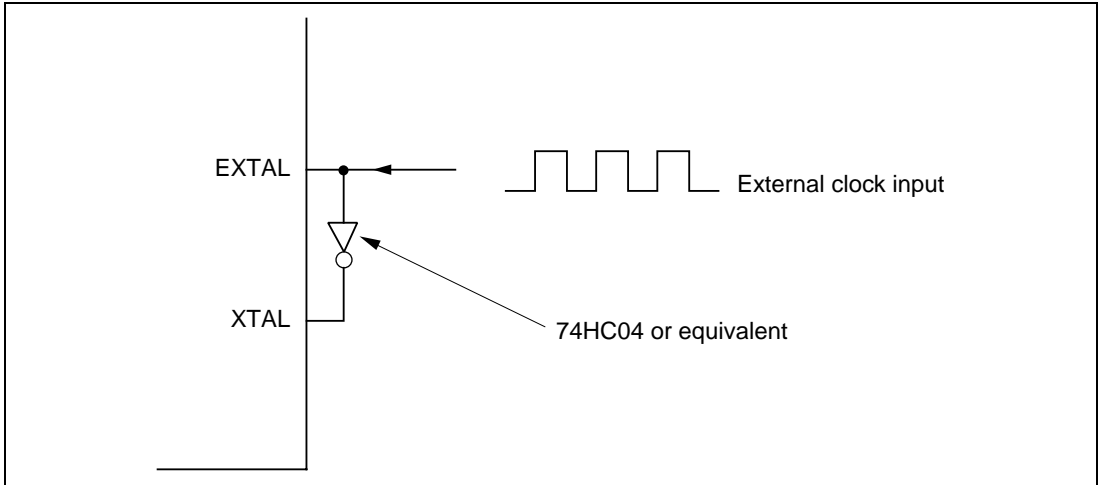

Figure 9-5 Example of External Clock Input
(1) Circuit Configuration: An external clock signal can be input at the EXTAL pin as shown in the example in figure 9-5. A reverse-phase clock should be input at the XTAL pin.
When the circuit configuration in figure 9-5 is used, the external clock should be held high in standby mode.